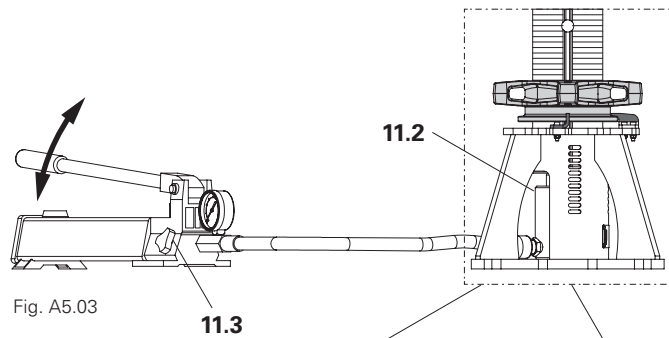

Fig. A5.03
1. Insert the hydraulic cylinder (11.2) into lowering jack (1).
2. Operate the pump lever until the cylinder is resting on the red pressure piece (1.1) of the spindle tube. (Fig. A5.03 - A5.03b)
3. Build up pressure with the pump lever until the specified force is displayed on the manometer or the spindle is resting on the hold-down device, see static and pre-stressing plan. Monitor the free travel at the hold-down device (1.3) and the pressure on the manometer. (Fig. A5.03)